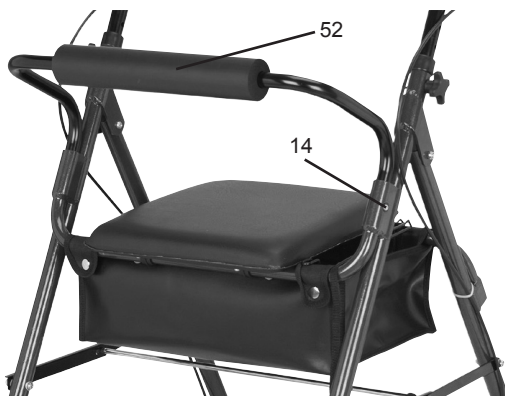

Figure 2
2. The Brake Cable (7) should already be fastened to the Push Handles (2). Place the Push Handles into the Front Frame (17) and set to the required height using the Screw Caps (13) and Screws (10). Fasten securely. **WARNING!** Make sure that both Push Handles are set at the same height.
3. Insert the removable Backrest Bar (52) into the slots on the Front Frame and fasten into place by inserting the Retainer Pins (14). See **Figure 2**, below.